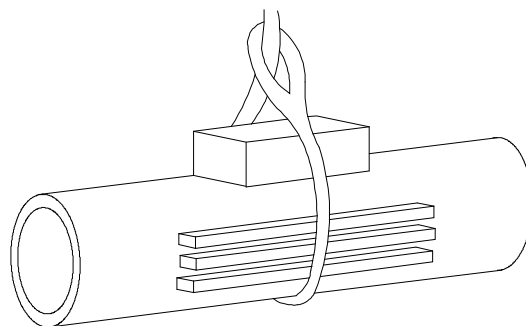

Figure 13.23 Blocking or padding used to protect hollow vessels
3. Use blocking or padding to protect hollow vessels (**Figure 13.23**), loose bundles and fragile items from scuffing and bending. Remember that blocking becomes part of the lift, and must be added to total weight on the sling.